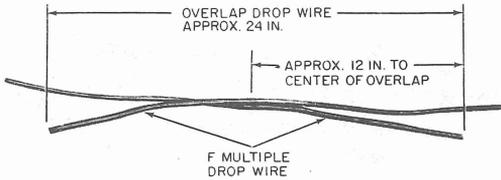

Fig. 21—Overlap ∇ Multiple Pair ASW ∇
7.02 Splice multiple ∇ pair ASW ∇ as illustrated in Fig. 21 through 28.